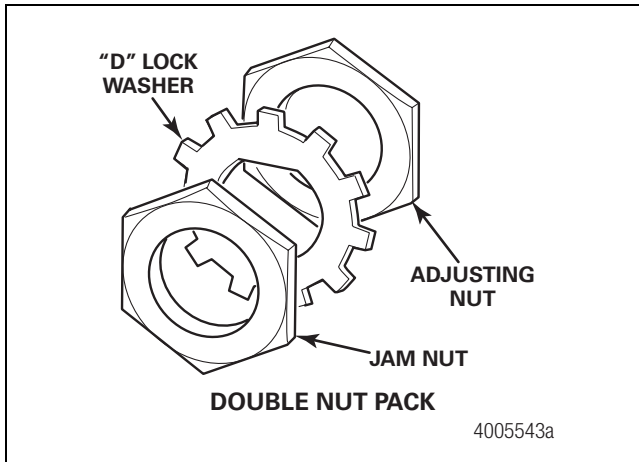

Figure 13.23
- Use a 3.5-inch (89 mm) socket wrench to remove the jam nut, "D" lock washer and adjusting nut. Figure 13.23.